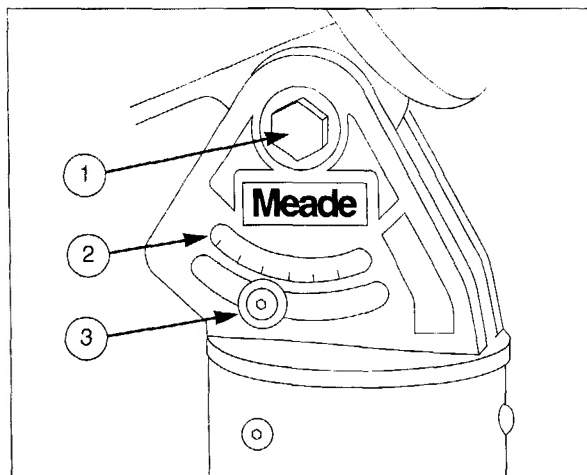

Fig. 2: Closeup of Latitude Adjustment. (1) Primary Latitude Locking Bolt; (2) Latitude Scale; (3) Latitude Hex Screw.
2. **Adjusting the Latitude:** Adjust the polar axis to your approximate latitude by loosening the primary latitude locking bolt (1, Fig. 2) and the latitude hex screw (3, Fig. 2) located at the top of the pier. Rotate the mount about the lock bolt until the center of the latitude hex screw is aligned with the latitude of your viewing location. (Degrees of latitude are shown on most maps.) Once aligned on the correct latitude, tighten the primary latitude locking bolt and the latitude hex screw.